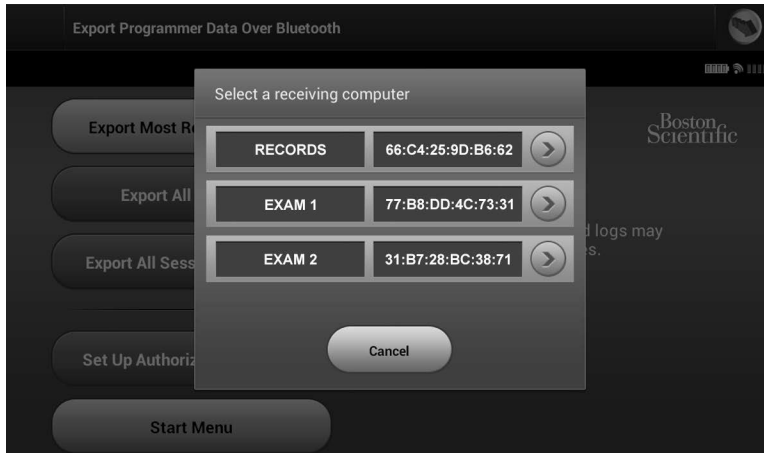

Figure 42: Select a computer to receive the transfer
2. Select one of the three export options (Export Today's Data, Export Last Seven Days, Export All). The **"Select a receiving computer"** pop-up window will appear (Figure 42).